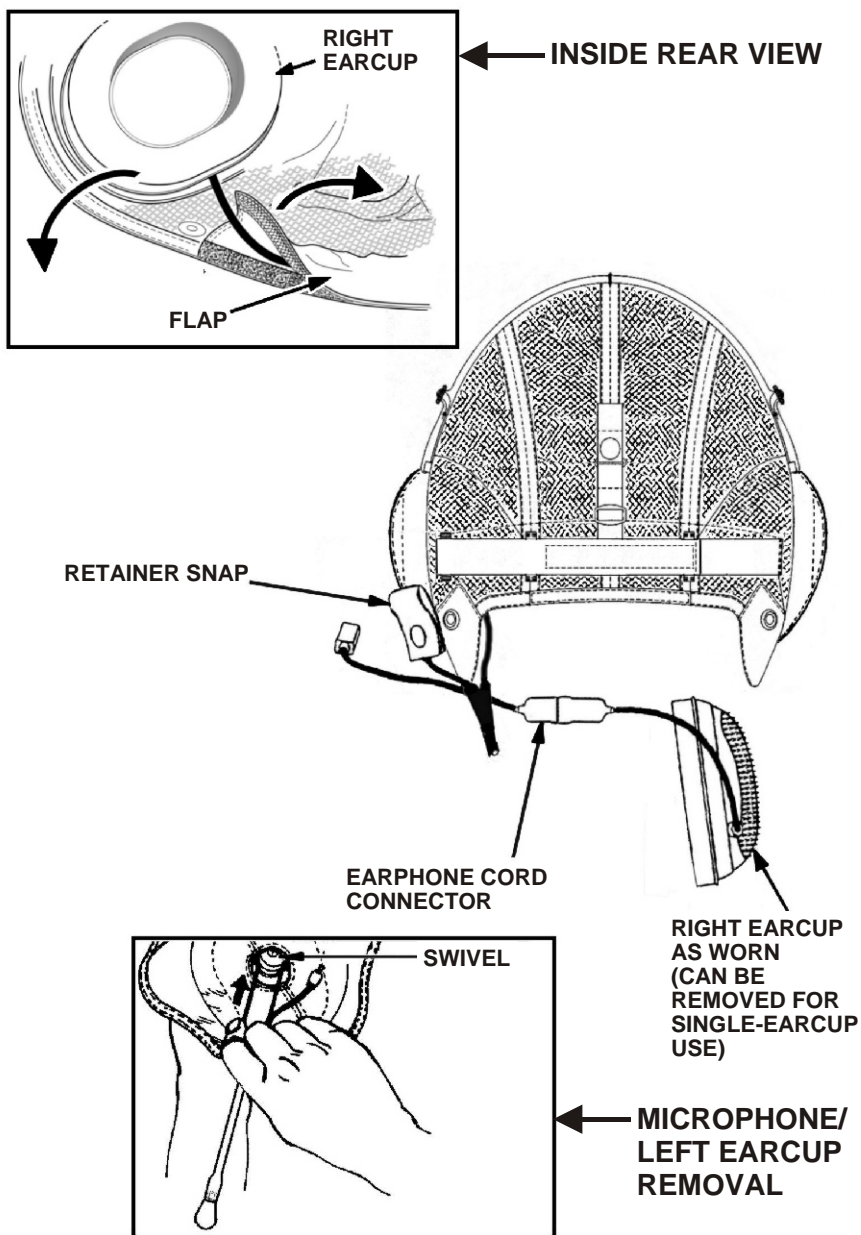

Figure 9. Communications Assembly Removal
2. Referring to **Figure 9**, remove the communications assembly from the inner helmet as follows: